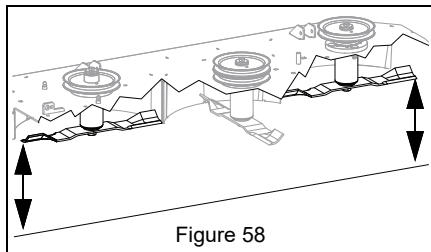

Figure 58
3. Raise deck to 3 1/2" cutting height. See Figure 58.